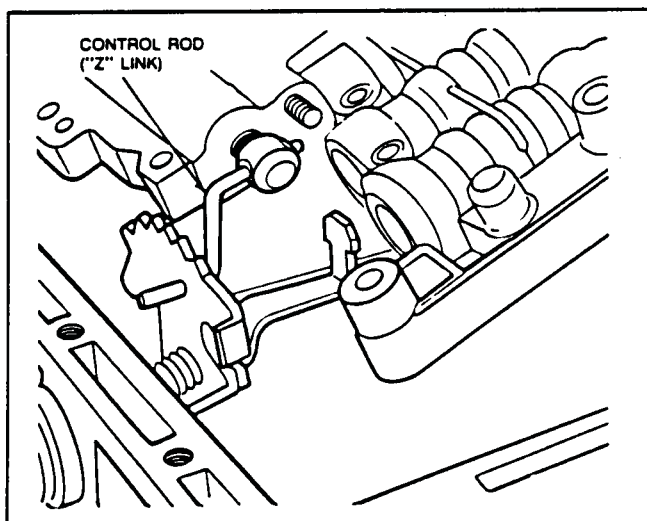

FIG. 53 Control Valve Body Installation
23. Attach and lock the selector lever connecting rod (Z-link) to the manual valve and ease the control body into the case. **CAUTION: Use care not to bend selector lever connecting rod (Z-link)** (Fig. 53).